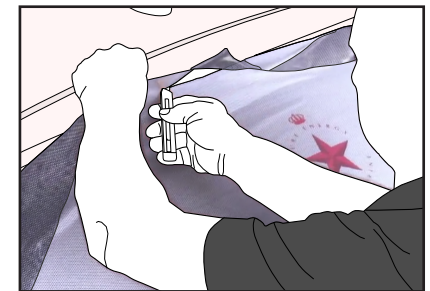

Figure 18
- › Pre-cut the top of the film so that only 1 to 2 cm (0.4 to 0.79 in.) of the film overhangs the window. (FIG. 18)